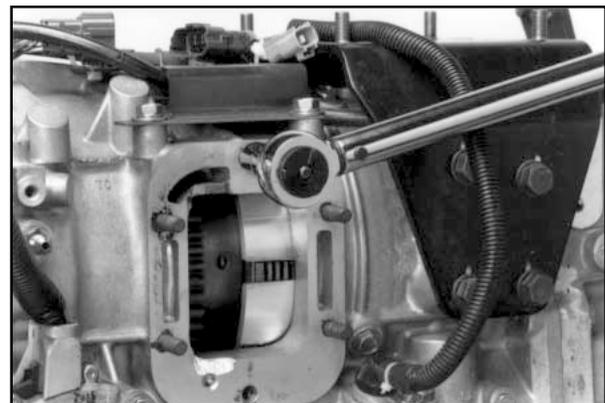

Figure 8
9. Tighten the studs securely and torque to 17 - 19 ft. lbs. or 2.35 - 2.63 kg. meters (**Figure 8**). **CAUTION: Overtightening of the studs may damage the stud and or transmission threads. Do not force the shoulder of the stud below the surface of the bolthole.**